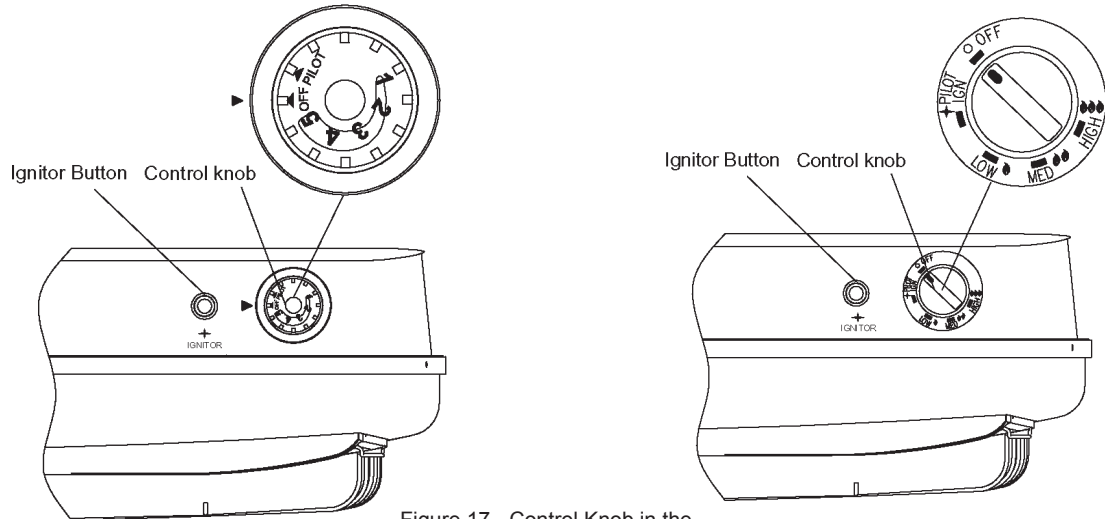

Figure 17 - Control Knob in the OFF Position
4. Wait five (5) minutes to clear out any gas. Then smell for gas, including near the floor. If you smell gas, STOP! Do not try to light any appliance. Do not touch electrical switch or use any phone in the building. Immediately contact gas supplier from a neighbor's phone. Follow gas supplier's instructions. If you can't reach the gas supplier, call the fire dept. If you don't smell gas, go to the next step.
5. Turn control knob counterclockwise ↺ to the PILOT position. Press in control knob for five (5) seconds (see Figure 17).
**Note:** The first time that the heater is operate after connecting the gas supply,the control knob should be depressed for about thirty(30) seconds.This will allow air to bleed from the gassy system. If pilot does not stay lit, refer to *Troubleshooting*, pages 17 through 19. Also contact a qualified service technician or gas supplier for repairs. Until repairs are made, light pilot with match. To light pilot with match, see *Manual Lighting Procedure*.
**Note:** If pilot goes out, repeat steps 3 through 7. This heater has a safety interlock system. Wait one (1) minute before lighting pilot again.